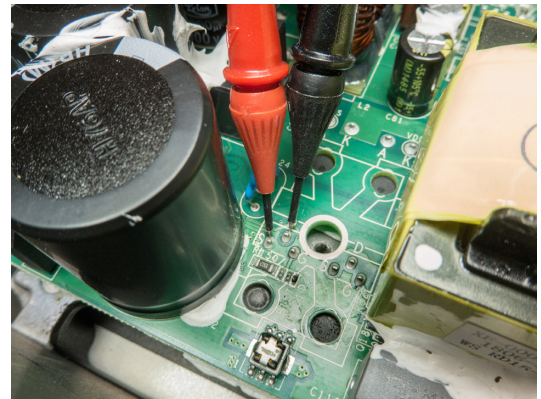

Figure 8.4.1 - Measuring PSU MOSFETs from top
- Q13 or Q14 shorted between any two pins of gate, source, or drain. (verifiable from the top of the PCB, with the clamp off - Figure 8.4.1)